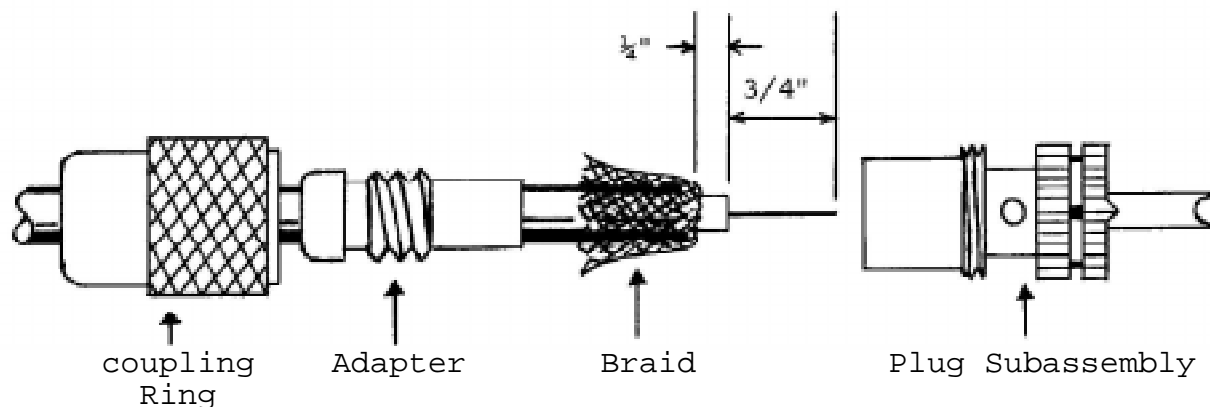

Figure 6-5. Sol-PC coaxial cable connector assembly.
Step 26. Install male coaxial connector on free end of coaxial cable that is connected to Sol-PC (the composite video output cable). Install connector as follows (refer to Figure 6-5):